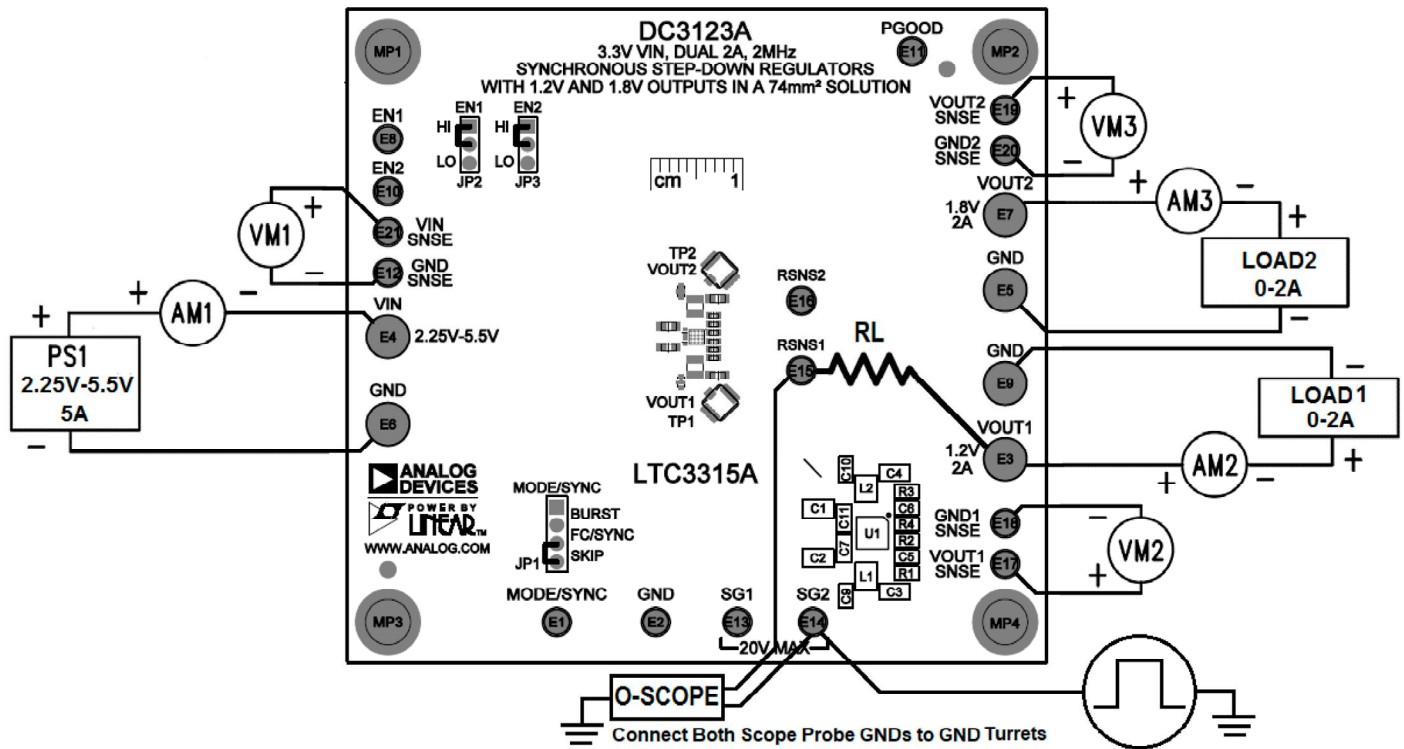
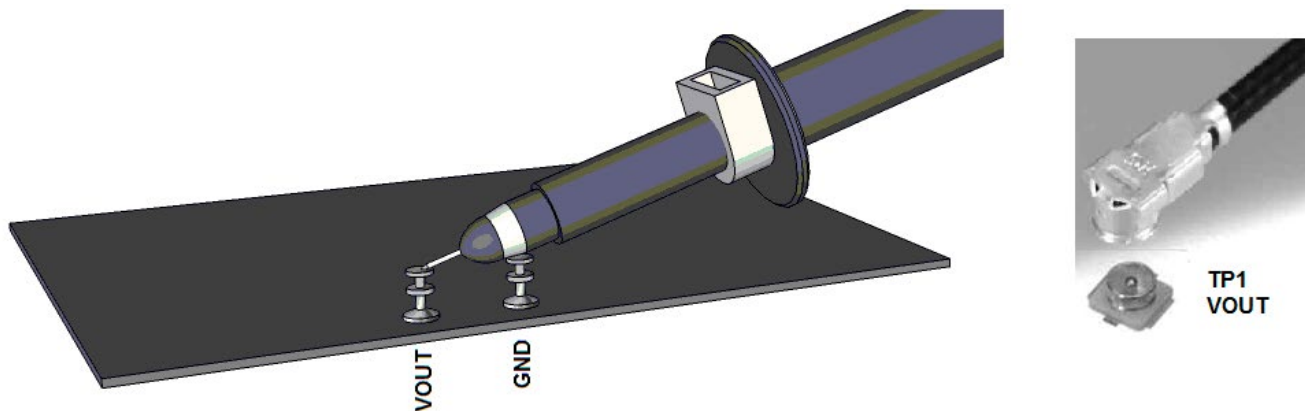

Figure 1. Proper Measurement Equipment Setup
Figure 2. Measuring Input or Output Ripple
The DC3123A is easy to set up to evaluate the performance of the LTC3315A. Refer to Figure 1 and Figure 2 for proper measurement equipment setup and follow the evaluation procedure below.
NOTE: For accurate  $V_{IN}$ ,  $V_{OUT}$  and efficiency measurements, measure  $V_{IN}$  at the  $V_{IN}$  SNSE and GND SNSE turrets and  $V_{OUT}$  at the  $V_{OUT}$  SNSE and GND SNSE turrets as illustrated as VM1, VM2 and VM3 in Figure 1. When measuring the input or output voltage ripple, care must be taken to avoid a long ground lead on the oscilloscope probe.
3. With power off, connect 0V to 6V, 5A power supply, PS1, between  $V_{IN}$  and GND with a series ammeter and a voltmeter as shown in Figure 1.
5. With power off, connect a 0A to 2A load to  $V_{OUT1}$  and GND with a series ammeter and a voltmeter as shown in Figure 1.
6. Turn on LOAD1 and slowly increase from 0A to 2A and observe the output voltage. The output ripple may also be observed using an oscilloscope with the probe connected as shown in Figure 2.
NOTE: Measure the output voltage ripple by touching the probe tip directly across the output turrets or to TP1 as shown in Figure 2. TP1 is designed for a 50 $\Omega$  coax cable to reduce any high frequency noise that might couple into the oscilloscope probes.
8. With power off, connect a second 0A to 2A load to  $V_{OUT2}$  and GND with a series ammeter and a voltmeter as shown in Figure 1.
9. Turn on LOAD2 and slowly increase the from 0A to 2A and observe the output voltage. The output ripple may also be observed using an oscilloscope with the probe connected as shown in Figure 2.
15. To test the transient response with a base load, turn off LOADx (LOAD1 or LOAD2) and add the desired resistor to produce a minimum load between  $V_{OUTx}$  and RSNSx turrets ( $R_L$  shown on Figure 1). Note that the total load resistance will be  $R_L$  plus RSNSx (100m $\Omega$ ).